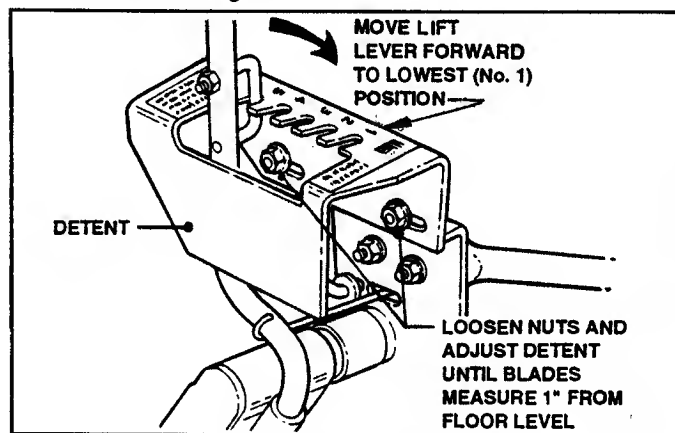

FIGURE 46
3. If dimension from blades to floor is not one inch (1"), then loosen the two nuts on the shift detent as shown in Figure 46.